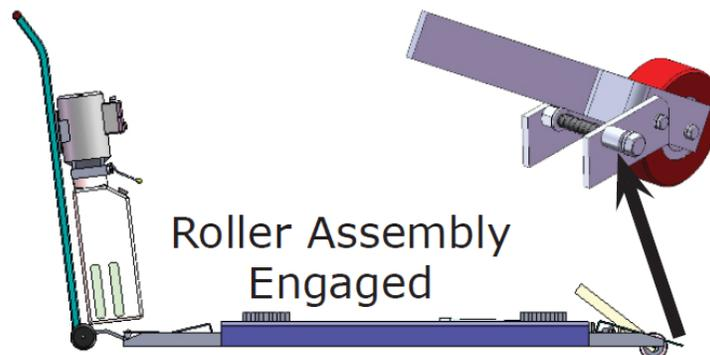

Fig.17
- Be sure the roller assembly must be engaged when moving vehicle (see Fig. 17).